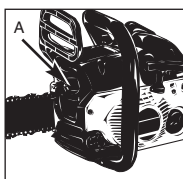

Fig. 20A
1. Release the chain brake. Remove the 2 screws (A) and take out the muffler (Fig. 20A).